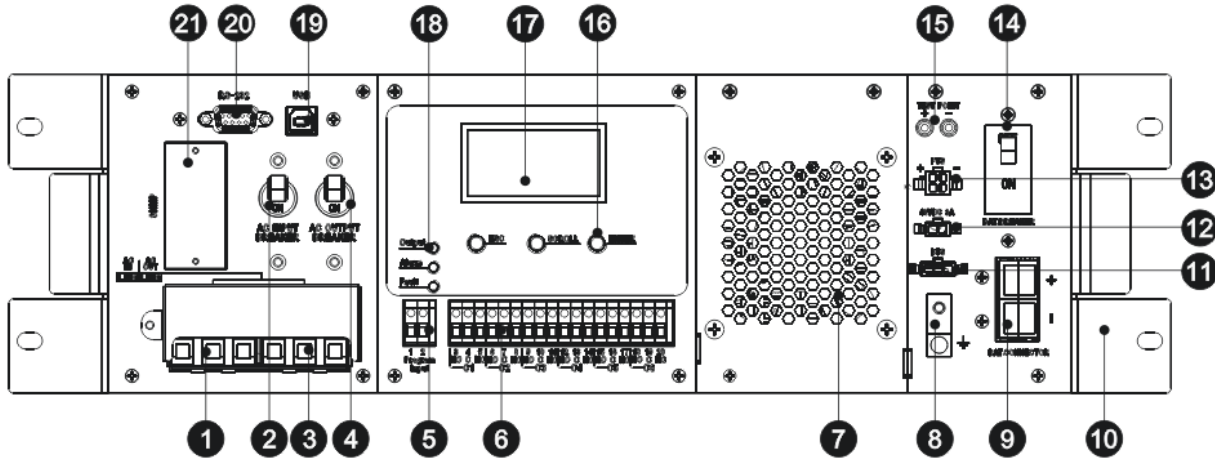

Figure 1: Front Panel of UPS
2. Refer to Figure 1 & 2, connect the following ports if used.